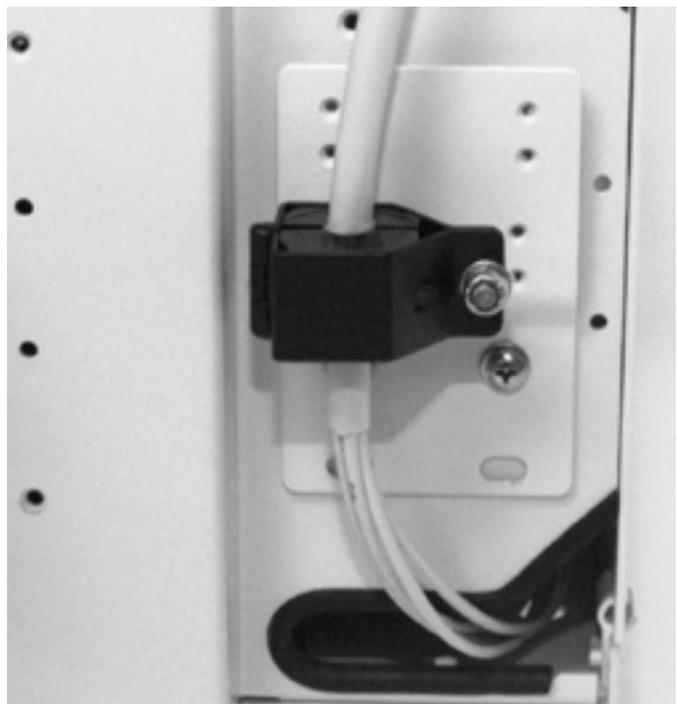

Figure 7
Step 2: When using the UCC, the clamshell must be attached to the strain-relief bracket before the bracket is attached to the unit and the shims are added (Figure 7). Refer to the instructions provided with the UCC kit for detailed instructions.